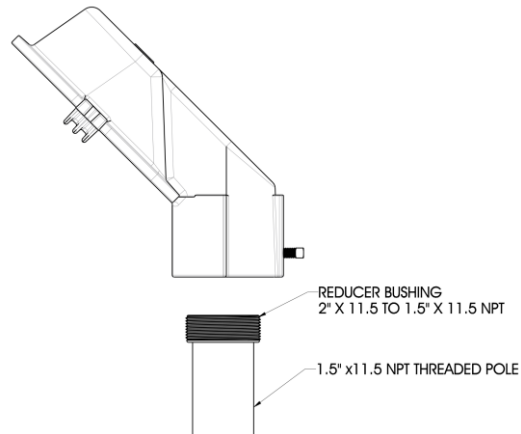

**Figure 7: Separate Stanchion Mount from Light Fixture**
- Loosen and back off 1/4-20 nut. Do not remove nut. Rotate bolt and separate the Stanchion Mount from the Light Fixture assembly. See Figures 7 and 8